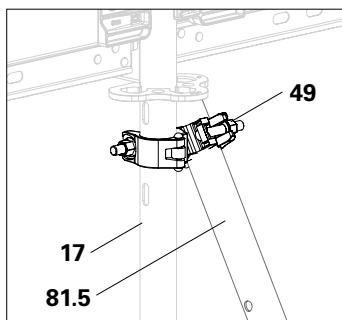

Fig. C4.05a
4. From the second scaffold level, fit the inner tube onto the outer standard (17) using a swivel coupling (49). Push the coupling as close as possible to the rosette and tighten. (Fig. C4.05a)
6. Fit the inner tube (81.2) onto the rear hole (82.4) of the base plate by means of bolts (83) and nuts (84).